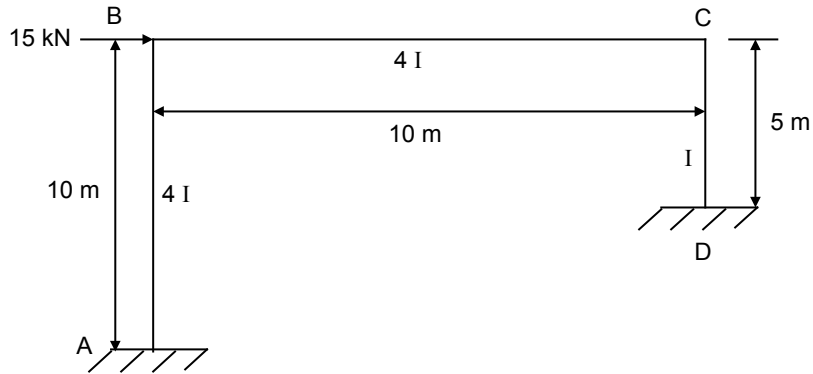

Figure 7
Q.7 Analyse the portal frame $ABCD$ loaded as shown in Figure 7. The member are made with same material, length and moment of inertia of each member are mentioned in Figure 7.